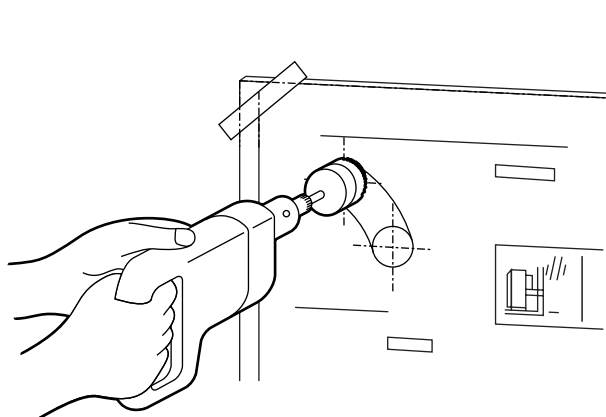
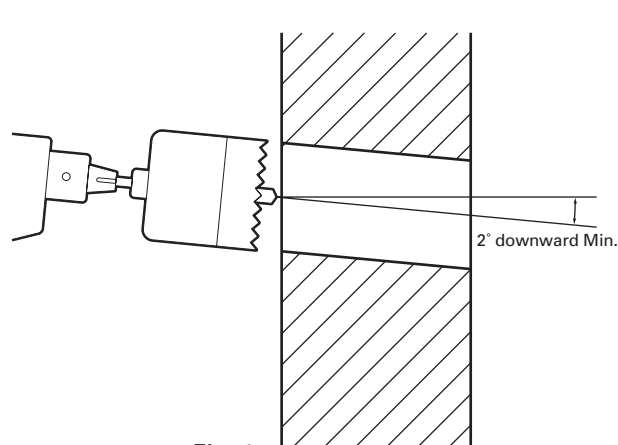

Fig. 5
Fig. 6
4. Install the Balanced Flue Pipe with a slight downward slope to outside, (2 degrees ... See Fig. 6), to ensure that combustion condensate drains to outside, and also to prevent rain, watering systems or snow water entering from outside after installation. Before drilling the final size hole for the Balanced Flue Pipe, first, pierce the wall with a small "pilot hole", right through the wall (say 5mm diameter) from inside to outside. This method enables the angle of the final hole to be better controlled. Then enlarge the hole (to between 70mm and 80mm), starting from outside and maintaining the downward slope of approx. 2degrees. (See Fig. 5). (Warning: if the pilot hole is to big, it may make the final hole drilling difficult).